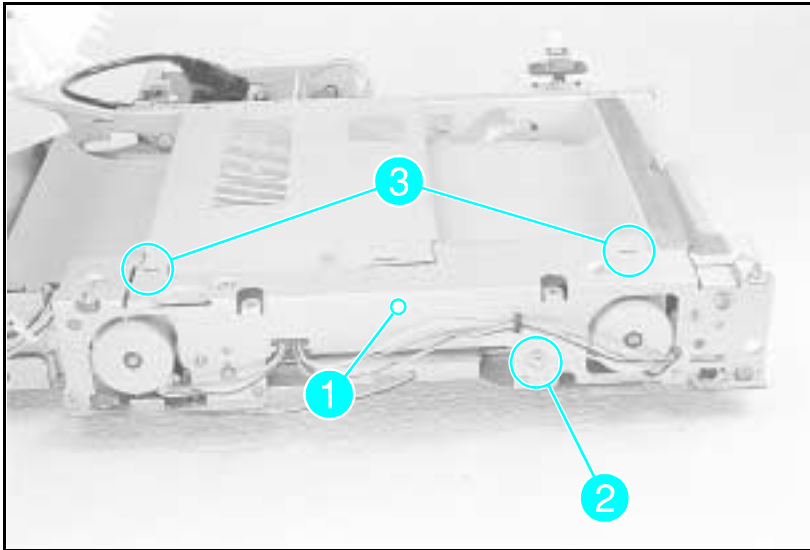

Figure A-20 Holding Tray Belt Cover Plate
- 1 Remove all the screws securing the plate (see Figure A-20, callout 1).
- 2 Remove (1) E-clip shown in Figure A-20, callout 2.
- 4 Release (2) latch points shown in Figure A-20, callout 3.